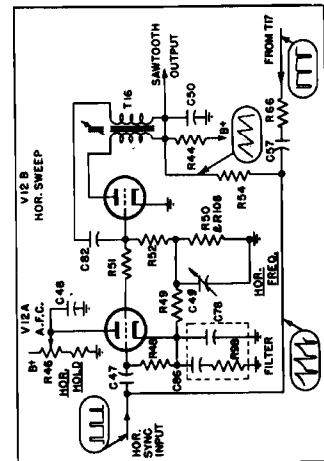

Fig. 6. Horizontal Sweep and A.F.C. Sync
5. HORIZONTAL SWEEP GENERATOR AND AFC SYNC (SEE FIGURE 6)—The horizontal sawtooth generator makes use of one section of a Type 6SN7GT tube, V12B, connected in a blocking oscillator circuit. Instead of its frequency being controlled directly by the horizontal sync pulses, it is controlled by a d-c voltage on its grid, which is the resultant of the phase difference between the incoming sync signal and a voltage wave derived from the output of the sweep generator. The resultant d-c voltage produced by the tube V12A is called an automatic frequency control (AFC) voltage.
The tube V12A obtains its operating bias through its connection to the grid circuit of the blocking oscillator tube, V12B, through resistor, R51. The blocking oscillator produces a large negative bias in its grid circuit during its normal operating cycle. When the horizontal sync pulses or the combined output voltage (shown at lower left of Figure 6) are impressed separately on the grid of tube V12A, they do not have sufficient positive amplitude to cause appreciable plate current flow in tube V12A. However, if they are combined and phased properly as shown in Figure 7A, B, or C, their composite amplitude is sufficient to cause plate current flow in tube V12A. This current flows through the voltage divider consisting of resistors R50 and R51. The voltage across R50 is above the d-c line in Figure 7. Due to the voltage that conduction takes place, the capacitors C66 and C78 become charged positive in respect to ground, the magnitude of the charge and the resultant voltage thereon, being dependent upon the duration of the flow of plate current in tube V12A.